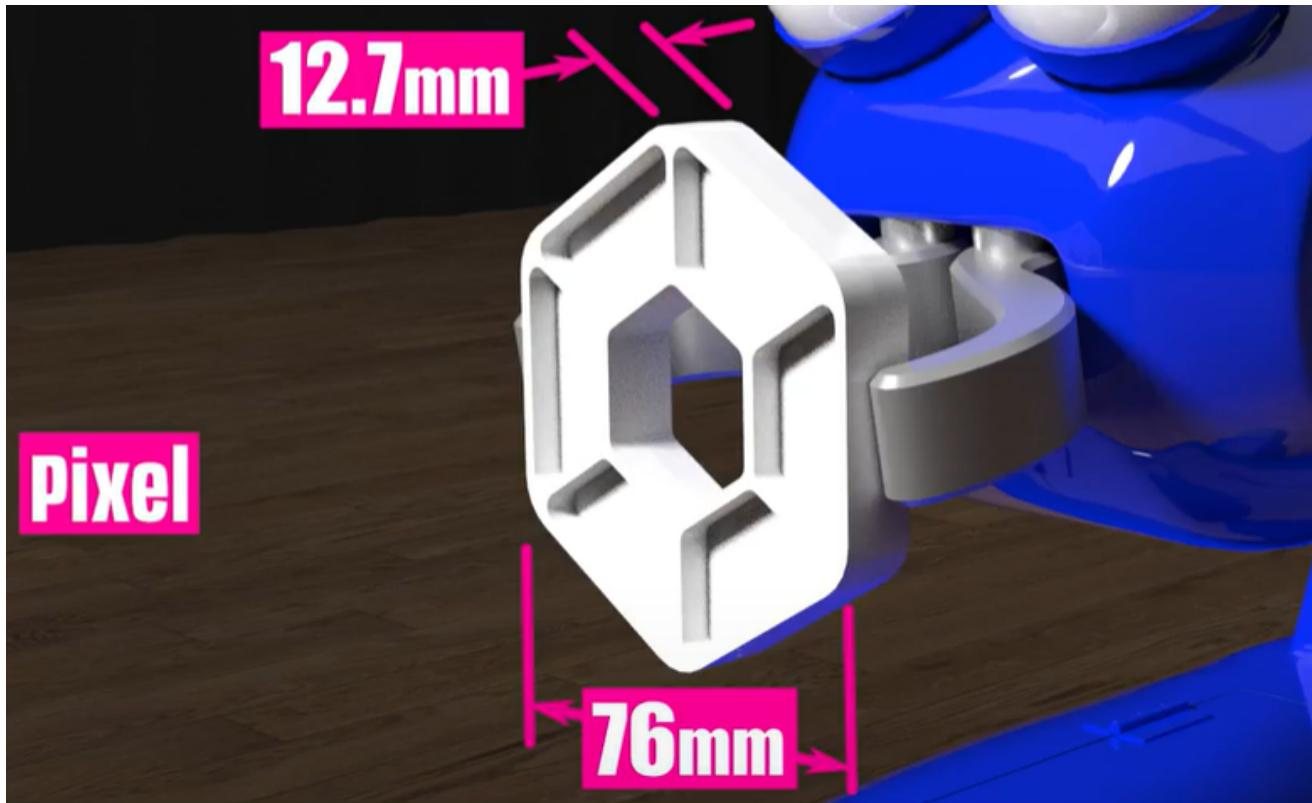

Fig. 1: This season's TFOD model can recognize a white Pixel
**Figure 1** below represents one possible 2D scenario.
**Figure 2** shows the measured values associated with the camera/target scenario shown in Figure 1.